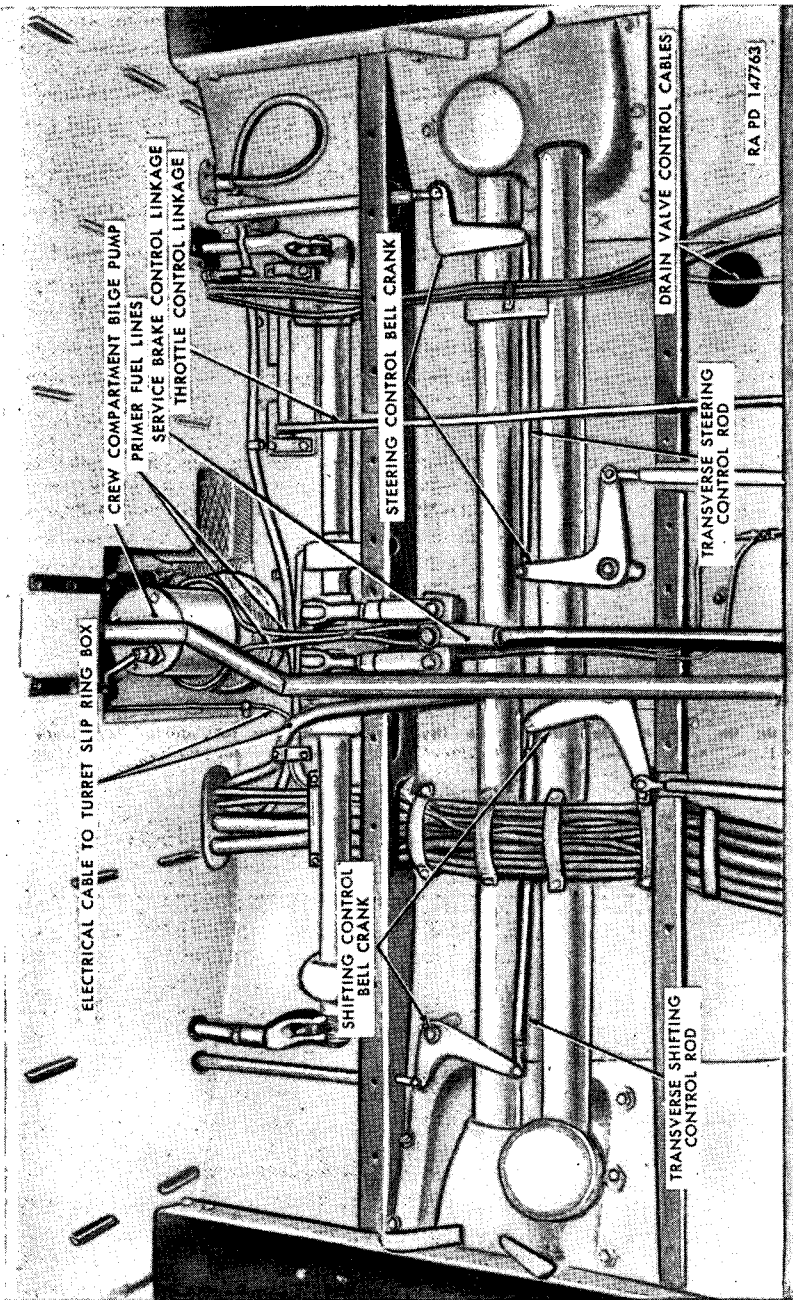

Figure 277. Hull floor with ammunition storage boxes removed.
- (3) *Excessive play in control linkage.* Excessive play in the linkage usually can be traced to loose bellcranks (fig. 276). Two steering control bellcranks are mounted on brackets on the left side of the transmission (fig. 230) and two on posts under the ammunition stowage boxes (fig. 277). In each
- (b) *Fighting compartment* (fig. 277). Remove screw and nut securing transverse control rod to bellcrank nearest bulkhead.
- (c) *Engine compartment.* To remove the long control rods extending from the fighting compartment to the transmission, it is necessary to remove the fuel tanks (par. 177). Remove the screws and nuts securing the control rods to the bellcranks at the rear of the fighting compartment (fig. 277). Loosen clamps securing rod to boots on bulkhead in engine compartment. Disconnect the rods at the bellcranks under the transmission. Move the rods until they are clear of the bulkhead and rear shroud channel, then lift out of the vehicle. Remove the vertical rods at the transmission by disconnecting at the upper and
lower bellcranks. Remove the nuts and washers securing the four rear bellcranks to brackets mounted on the hull. Remove bellcranks. To install long control rods, push each rod from engine compartment through opening in bulkhead until rear end of rod clears shroud channel. Pull rod back, guiding rear end through hole in channel. Connect rod to bellcrank at rear of fighting compartment (fig. 277). Position bellcranks at transmission on brackets and secure each bellcrank with a nut and washer. Connect long control rod to lower bellcrank. Connect vertical rod to upper and lower bellcranks. Install screw and nut at each point of connection. Tighten boot clamp on bulkhead in engine compartment.
a. LINKAGE ADJUSTMENT. The throttle control linkage is adjusted at the throttle control linkage turnbuckle located under the left ammunition stowage box in the fighting compartment. To adjust the linkage, open the left stowage box floor plate and remove the bottom shell rack (fig. 277). Turn the linkage coupling (turnbuckle) to lengthen or shorten the control rod in the fighting compartment.